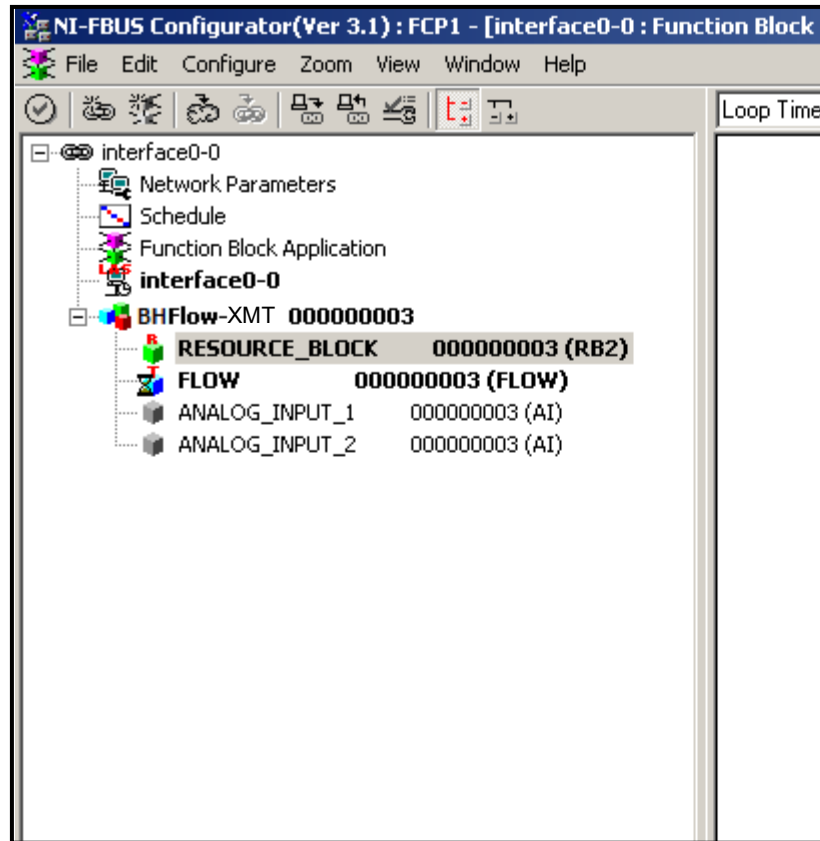

Figure 58: Configuration Utility Setup Example
Figure 58 shows the Configuration Utility with a flowmeter on the network (Panametrics Flow-XMT).
1. Double click on the AI block for which you wish to set the units (**ANALOG_INPUT_1** or **ANALOG_INPUT_2** in the tree under **Panametric Flow-XMT**; see Figure 58 on page 142).
1. Double click on the **FLOW** transducer block (in the tree under **GEFlow-XMT**; see *Figure 58 on page 142*).